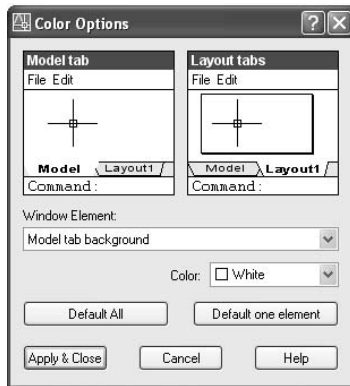

FIGURE 1.5: The Color Options dialog box
- In the Window Elements area of the Display tab, click the Colors button to open the Color Options dialog box (see Figure 1.5). In the middle of the dialog box, in the Window Element drop-down list box, Model Tab Background should be visible. If it's not, open the drop-down list and select it.